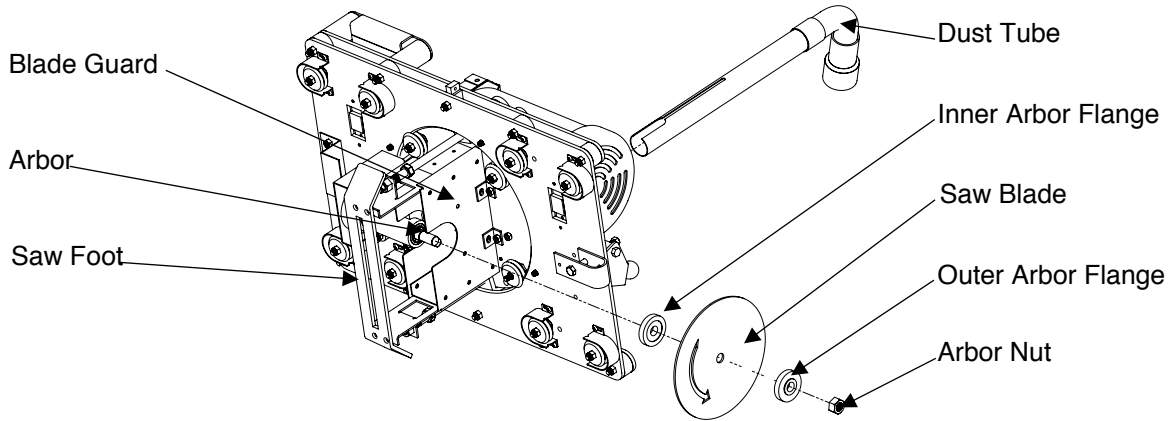

Figure 20: Changing a Saw Blade (Carriage viewed from underside)
7. Remove Dust Tube (Fig. 20) by pulling from saw base.